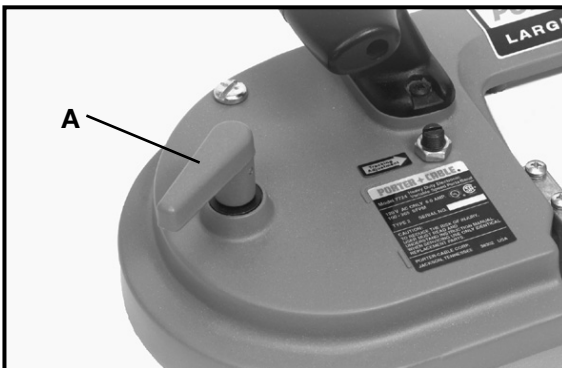

Fig. 2
TO REMOVE BLADE – Turn handle (A), Fig. 2, clockwise to release tension on the saw blade. Remove the blade, first from the pulleys and then from the blade guide.
Turn handle (A), Fig. 2, counterclockwise as far as it will go. This places tension on saw blade.